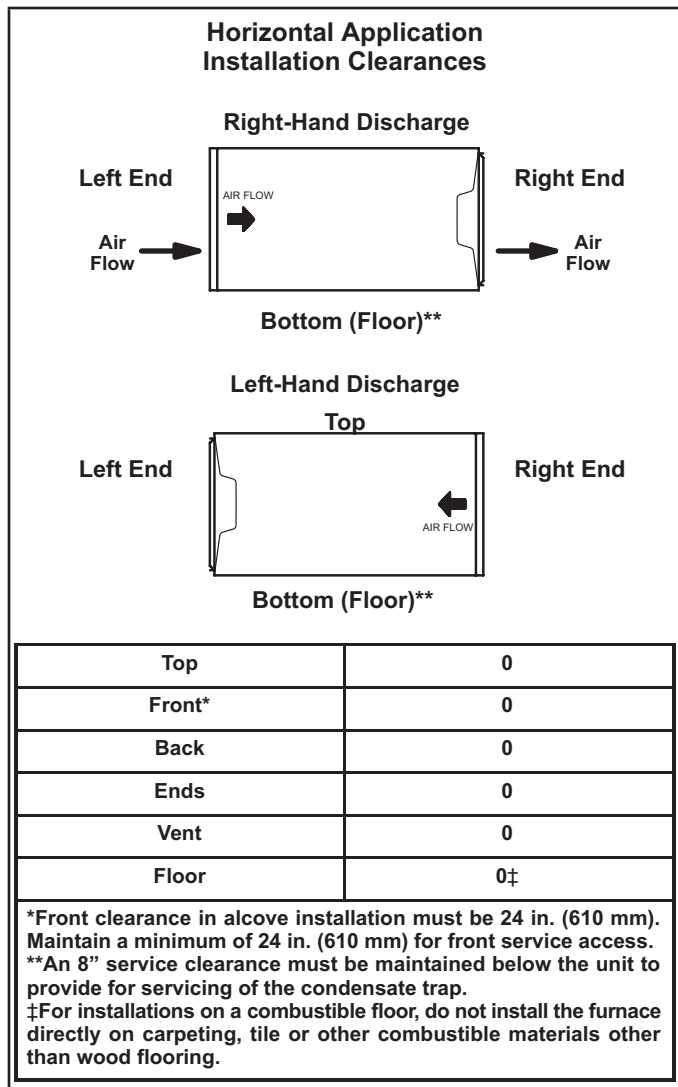

FIGURE 17
The ML193UHE furnace can be installed in horizontal applications with either right- or left-hand air discharge. Refer to FIGURE 17 for clearances in horizontal applications.
- 1 - Select location for unit keeping in mind service and other necessary clearances. See FIGURE 17.